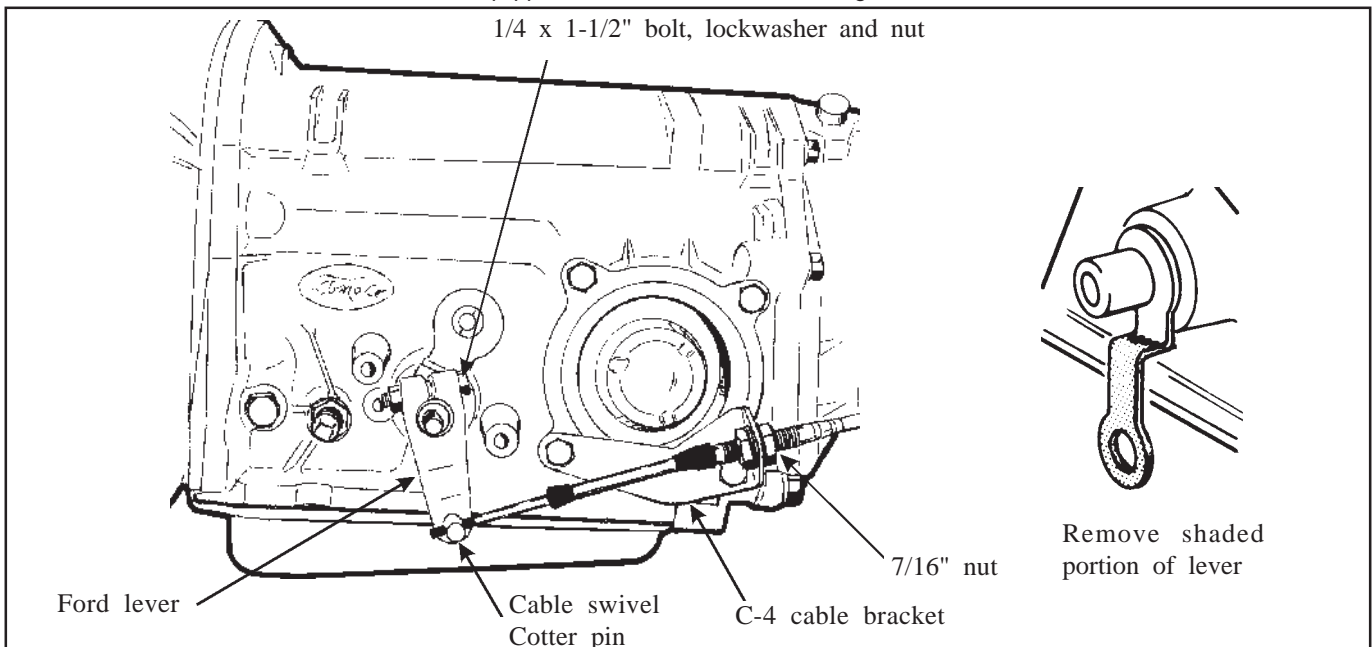

Figure 5
**STEP 14.** Install the **B&M** selector lever, see **figure 5 or 6.** Note: The **B&M** lever must point downward for proper operation. If the stock shift lever on your transmission points down, you will have to remove the lower part of the stock arm by cutting it off to clear the **B&M** lever, see **figure 5.** Install **B&M** selector lever onto shift shaft of transmission. Align selector lever so when it points straight down it travels equal arcs in both directions from center, then tighten  $\frac{1}{4}$ "-20 x  $1\frac{1}{2}$ " pinch bolt and nut. The lever should travel smoothly
**C-4, C-5:** Remove the two lower bolts from the rear servo cover. Install cable bracket in position, see **figure 5**. Install two servo cover bolts as removed and tighten 12-13 ft. lb. Do not overtighten as this can distort servo cover.